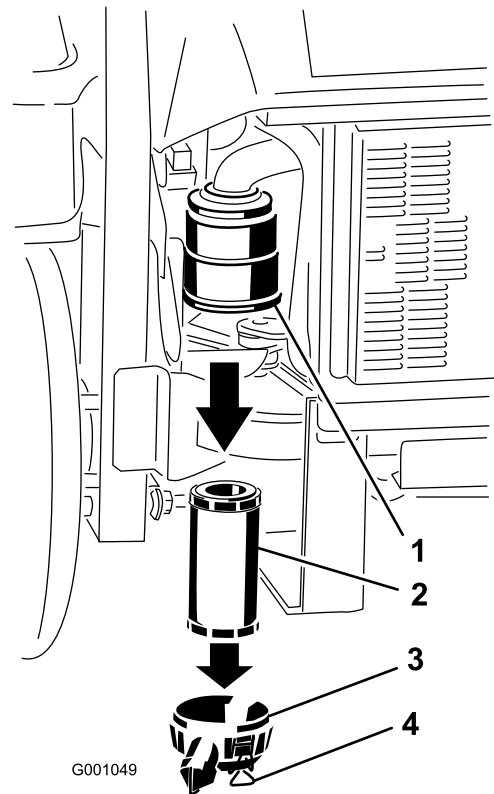

Figure 43
3. Release the latches on the air cleaner and pull the air-cleaner cover off the air-cleaner body (Figure 43).
5. Gently slide the filter out of the air-cleaner body (Figure 43). Avoid knocking the filter into the side of the body.